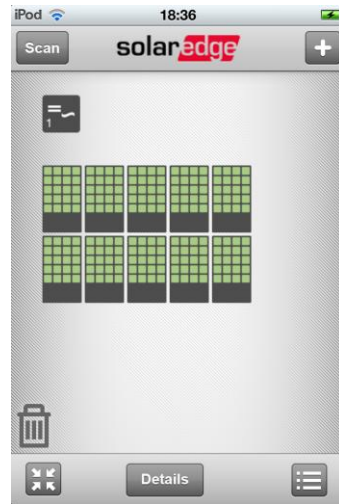

Figure 10: Main Screen
The *Main* screen opens for the selected design (see Figure 10).
- 1** In the *Main* screen (see Figure 10), drag the Module Group or Inverter to the desired location on the screen.
- 1 In the *Main* screen (see Figure 10), tap **Scan**.
- 1 In the *Main* screen (see Figure 10), scroll to a Power Box, and then tap **Details**.